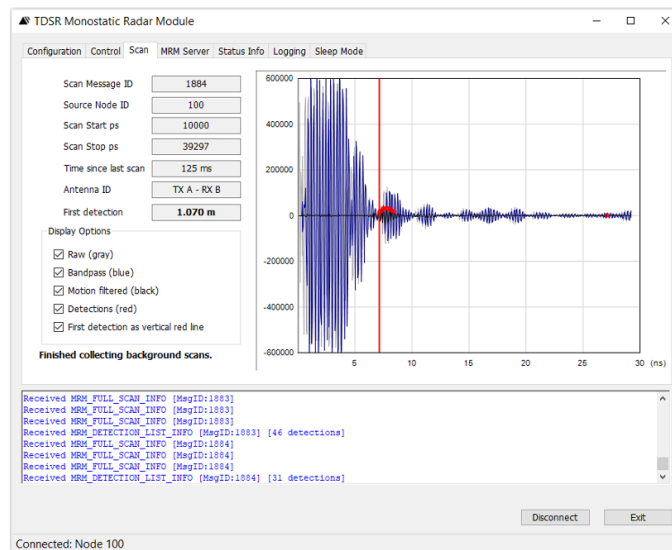

Fig. 12: MRM Scan Tab showing detection of person walking
5. Slowly move away from the P452. You will notice a red detection line (and a trailing set of detection points) that will crawl to the right as you move away from the antenna. This is illustrated in **Figure 12**. When you are finished, click the Stop Scanning button on the Control tab.